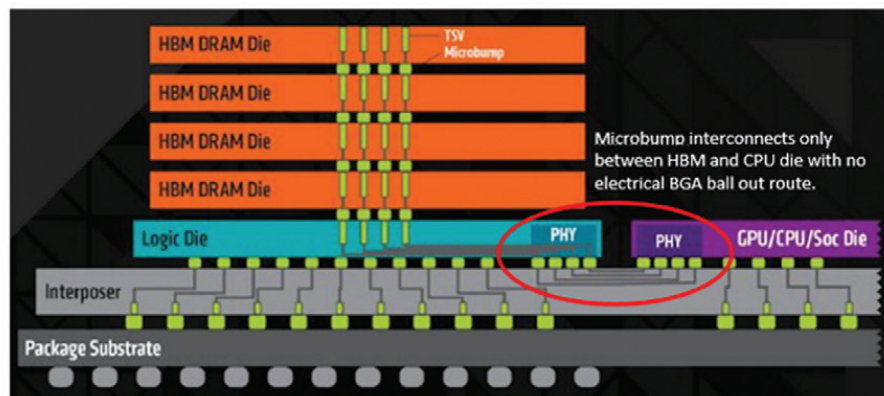

FIGURE 1. Schematic of HBM μ bump interconnect between the HBM and CPU die.
3D integration and packaging has challenged failure analysis (FA) techniques and workflows due to the high complexity of multichip architectures, the large variety of materials, and small form factors in highly miniaturized devices [1]. The drive toward die stacking with High Bandwidth Memory (HBM) allows the ability to move higher bandwidth closer to the CPU and offers an opportunity to significantly expand memory capacity and maximize local DRAM storage for high throughput in the data center. However, the integration of HBM results in more complex electrical communications, due to the emerging use of a physical layer (PHY) design to connect the chip and subsystems. **FIGURE 1** shows the schematic of a 2.5D stacked die package designed so that some HBM μ bumps are electrically connected to the main CPU through a PHY connection. In general, the HBM and CPU signal length needs to be minimized to reduce drive strength requirements